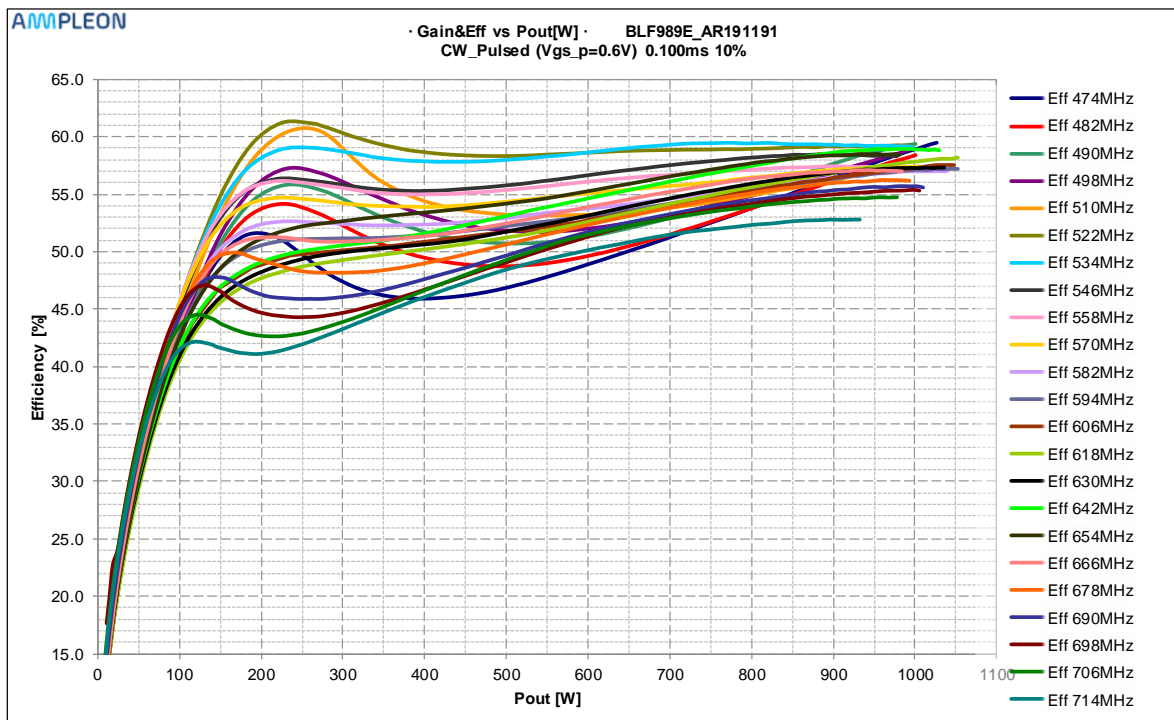

Figure 10 Pulsed CW, Efficiency [%] as function of Pout [W] Vgs_p=0.6V
- Figure 10 Pulsed CW, Efficiency [%] as function of Pout [W] Vgs_p=0.6V 10